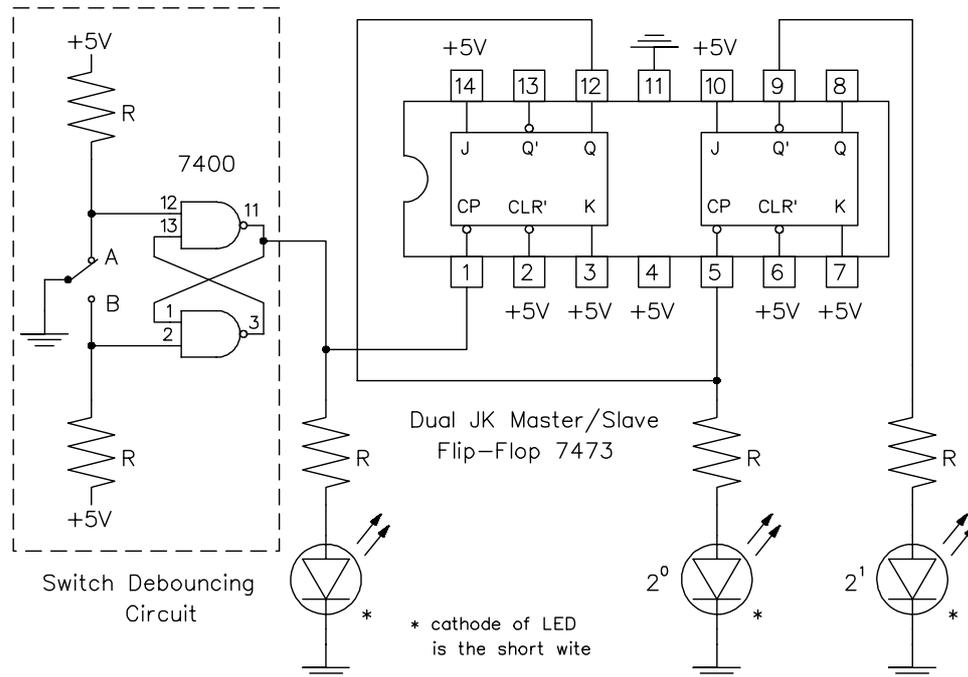

Figure 2.4: A binary counter
- ❗ Draw the circuit or create it using EWB. Label your gate connections with the corresponding chip gate pin numbers, as shown in Figure 2.4. This will ease the process of circuit assembly and troubleshooting.
The binary counter, shown in Figure 2.4, is made using a 7473 dual JK flip-flop chip. This chip has several modes of operation, depending on the the signal levels at the J and K inputs. With